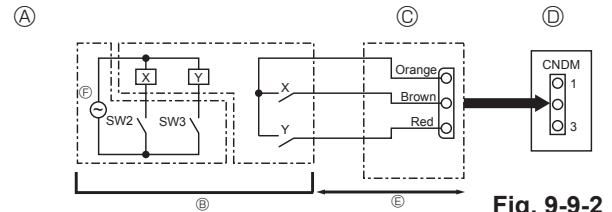

Fig. 9-9-2
9.9.2. Demand function (on-site modification) (Fig. 9-9-2)